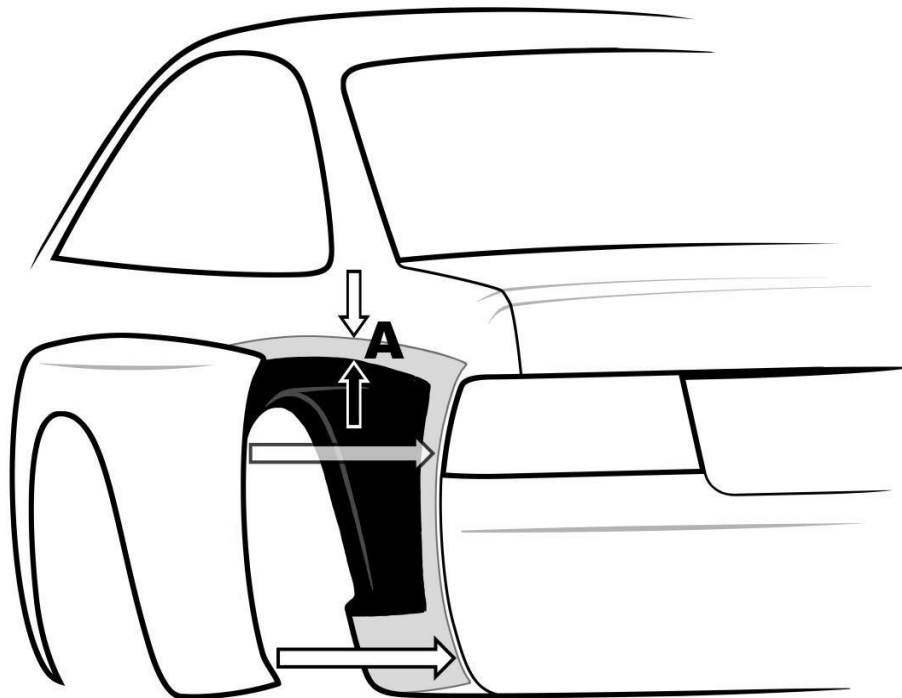

Fig 10.
- Over fenders are permitted and should be installed as in Figure 10